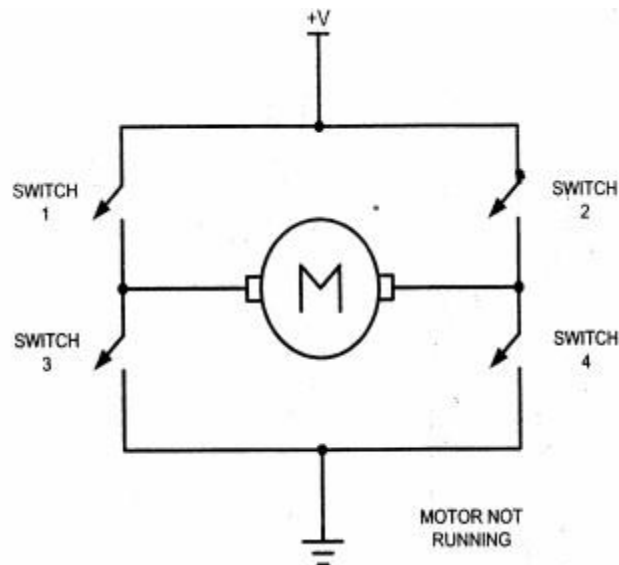

Figure 5.14 H-Bridge Motor Configuration ○
- Figure 5.14 through 5.17 shows the basic concepts of H-Bridge control of DC motors.